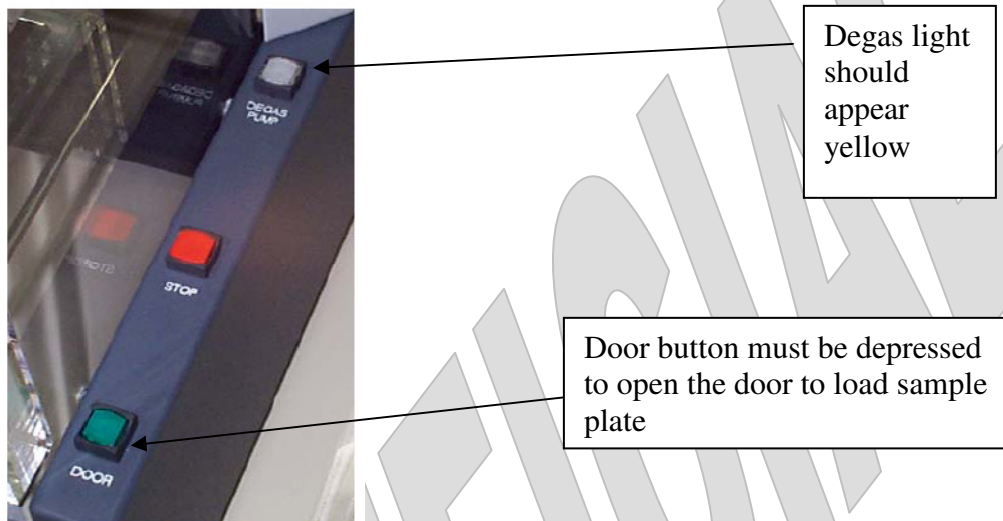

Figure 6: Degas button location. It should be yellow when active.
2.2.5. You can also apply the conditions to your sample wells by clicking on the wells in the plate map shown in “Well Plate” display on the left. See Figure 6. Added wells should appear in the well conditions table.